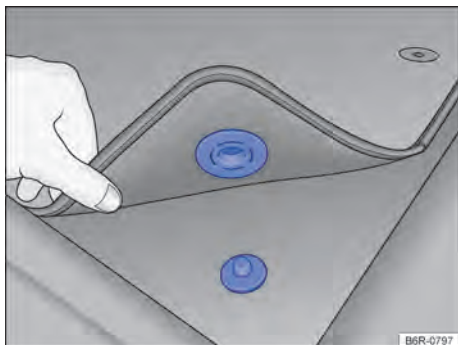

Fig. 19 Driver side mat attached to the floor pin.
- ✓ The floor mat in the footwell on the driver side must be securely fastened to ensure the pedal area is unobstructed. Depending on the vehicle equipment, the driver mat may be attached to the floor mat pin → Fig. 19.